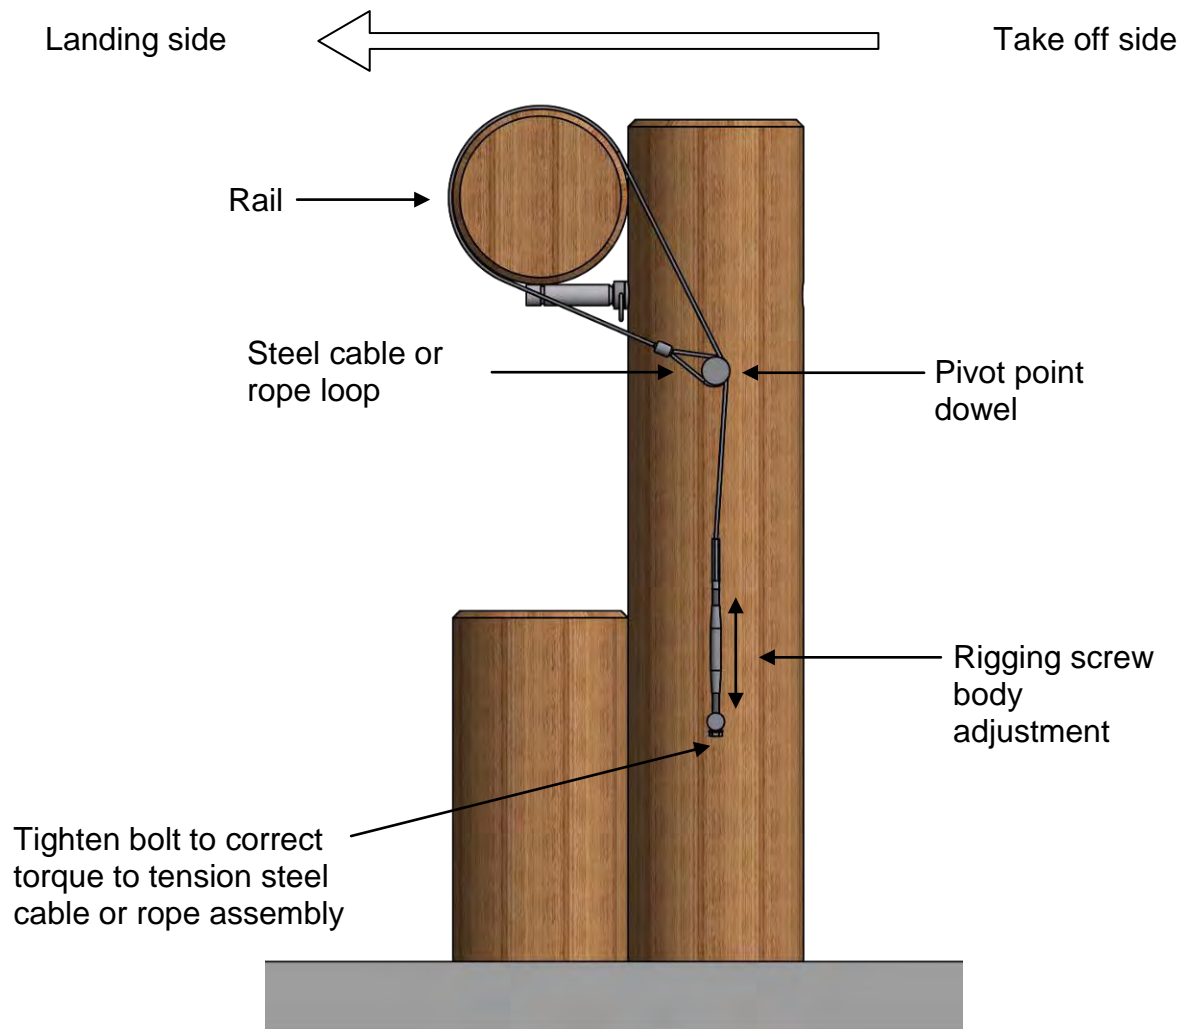

Figure 7 – Reverse pinning (only top rail shown)
3. Insert the **pivot dowel** with end flange into hole leaving approximately 15mm protruding from the post and hook the loop (soft loop) over flange as shown in Figure 7.